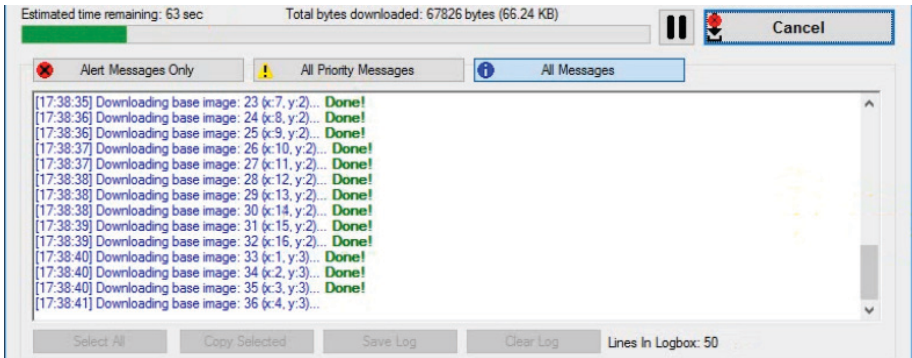

Figure 2-5. Download Map In-Process
- The map will take a short amount of time to download. The loading green-bar indicator and the amount of time remaining for the download process to complete is indicated by the Map Puzzle user interface as shown in Figure 2-5.